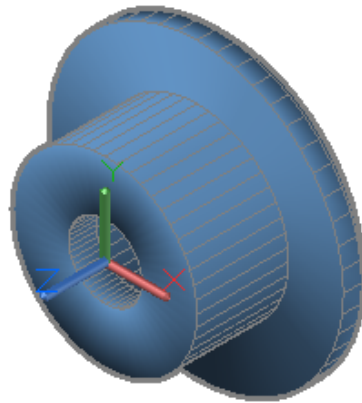

Figure Step 10
Step 10 Turn off layers: Construction and Pline and set the current visual style to Realistic. (Figure Step 10)